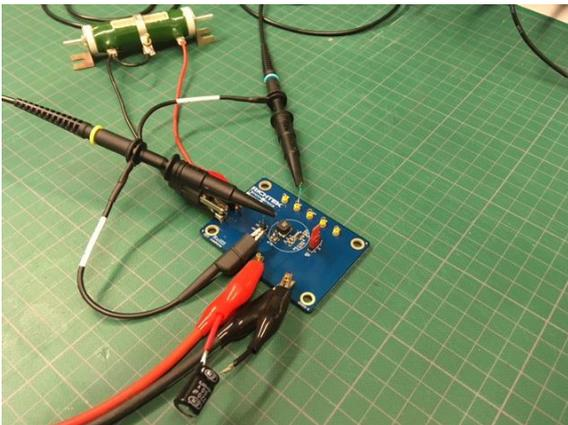

Figure 16
7.1 First measurement setup with large ground loop: (Figure 16)